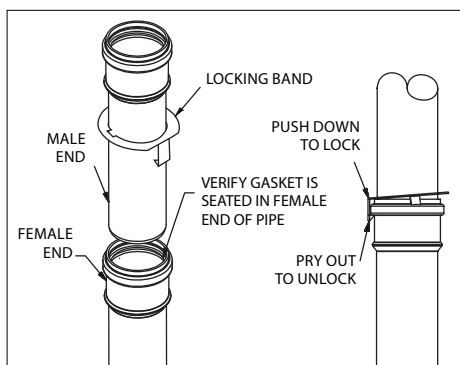
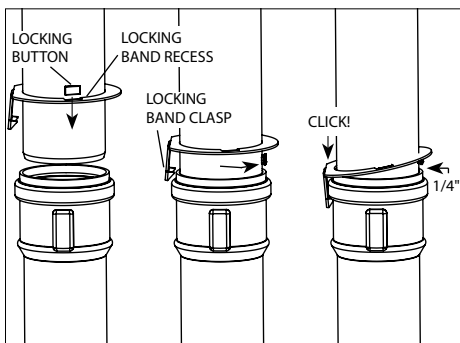
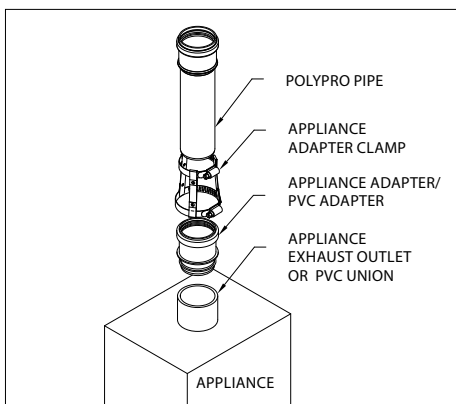
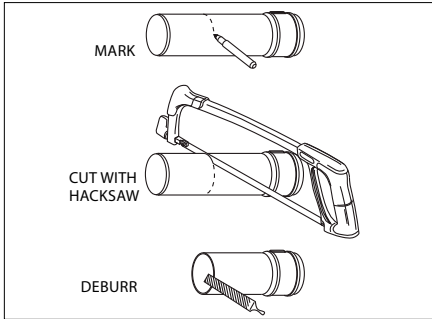

Figure 2
Figure 3
Figure 4
Figure 6
Verify the gasket is seated evenly inside the groove in the female end. There are two versions of locking band available, one with standoff legs (**Fig.2**), one without (**Fig.3**). For both: Slide Locking Band on male pipe section. **Fig.2: For pipe without Locking Button:** Slide pipe sections together until joint is bottomed out then slide apart 1/4" to 5/8" (7.5 - 15 mm) for expansion. Clip the locking band clasp onto the female hub.
Fig.3: For PP/Metal pipe with Locking Button: Insert locking button into locking band recess, rotate button away from Locking Band Clasp, insert pipe sections, push lock band clamp downward into socket, disengage button 1/4" from socket. **Screws are not allowed for joint connection. Never penetrate the wall of PolyPro vent pipe. (Exception- a SS screw may be used outside the building on exterior termination fittings to orient an elbow, etc).**
mandatory on all exhaust vent joints on pipe sizes from 2" up to 4". (Fig.2, 3)
- For 5"-8" diameter, Locking Bands are not required but strongly recommended at every exhaust vent joint. (Fig.2, 3)
- Locking bands are optional for air inlet vent joints. (Fig.2, 3)
Approved M&G DuraVent / Security Chimney 1738/636 metal vent fittings can be used with PolyPro. For PolyPro (female) to Metal Vent (Male) connections, the metal fittings will have a Locking Button or Protrusion, and will be connected similar to **Fig. 3**.
1. If the appliance has a PVC/CPVC female outlet use the Appliance Adapter/ PVC Adapter and Clamp. (**Fig.4**)
- Pipe lengths may be cut to length (**Fig.6**). Use an alternate clamp (**Fig.4-PPS-PAC / PPS-LBC**) for the connection if a locking button (**Fig.3**) is removed.